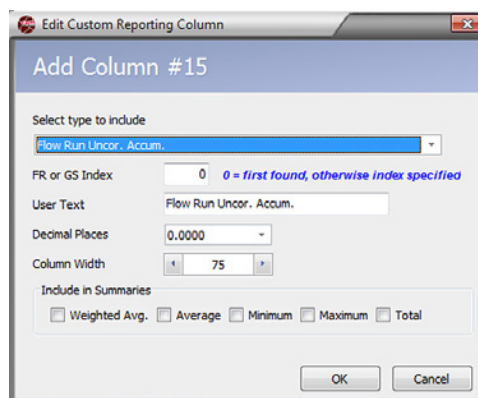

Figure 4.13—Add Column dialog
- a. Click the **Add Column** button at the right of the data grid. The *Add Column* dialog (Figure 4.13, page 51) will appear.